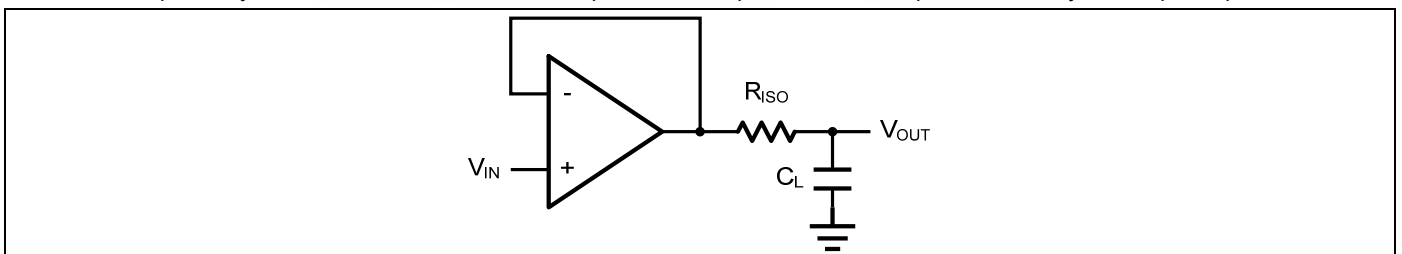
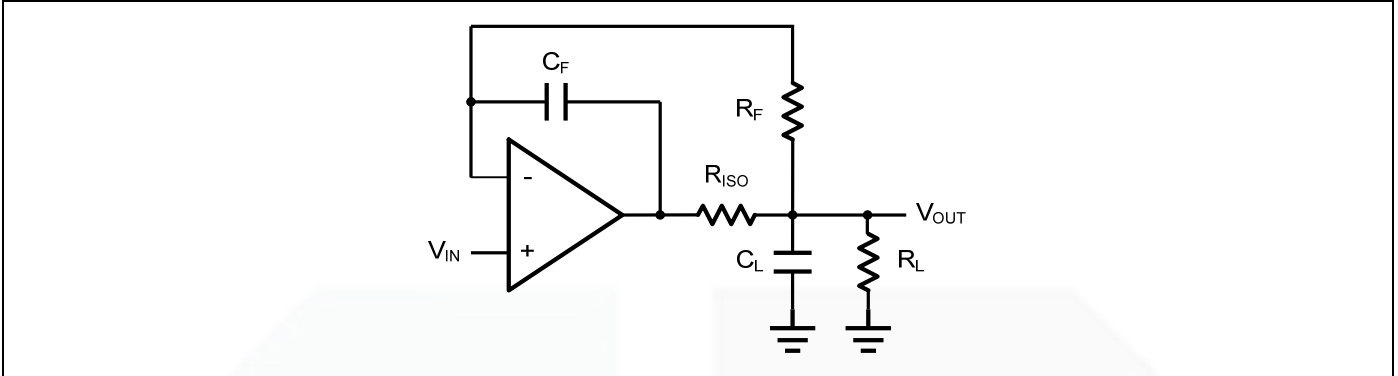

Figure 2. Indirectly Driving a Capacitive Load Using Isolation Resistor
Figure 3. Indirectly Driving a Capacitive Load with DC Accuracy
The GS72XA family is optimized for bandwidth and speed, not for driving capacitive loads. Output capacitance will create a pole in the amplifier's feedback path, leading to excessive peaking and potential oscillation. If dealing with load capacitance is a requirement of the application, the two strategies to consider are (1) using a small resistor in series with the amplifier's output and the load capacitance and (2) reducing the bandwidth of the amplifier's feedback loop by increasing the overall noise gain. Figure 2. shows a unity gain follower using the series resistor strategy. The resistor isolates the output from the capacitance and, more importantly, creates a zero in the feedback path that compensates for the pole created by the output capacitance.
The circuit in Figure 3 is an improvement to the one in Figure 2.  $R_F$  provides the DC accuracy by feed-forward the  $V_{IN}$  to  $R_L$ .  $C_F$  and  $R_{ISO}$  serve to counteract the loss of phase margin by feeding the high frequency component of the output signal back to the amplifier's inverting input, thereby preserving the phase margin in the overall feedback loop. Capacitive drive can be increased by increasing the value of  $C_F$ . This in turn will slow down the pulse response.